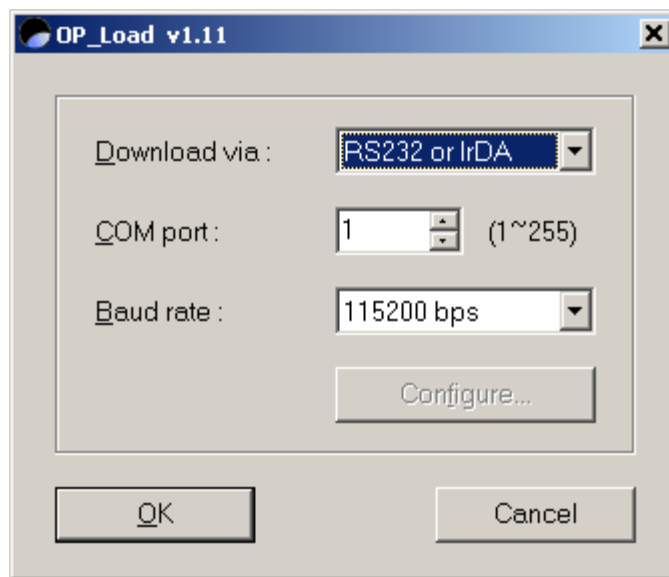

Figure 2: Download Window
7. From the Optimizer program, choose the “Tools” menu item, then “Communication”, and finally “Download Program”. The Optimizer window will minimize and the download window will open (see **Figure 2**).